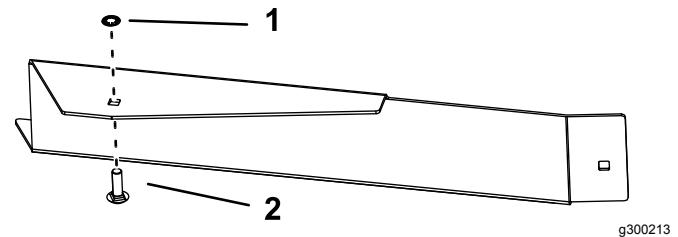

Figure 17
4. Install the carriage bolt and push nut onto the front baffle as shown in Figure 17.